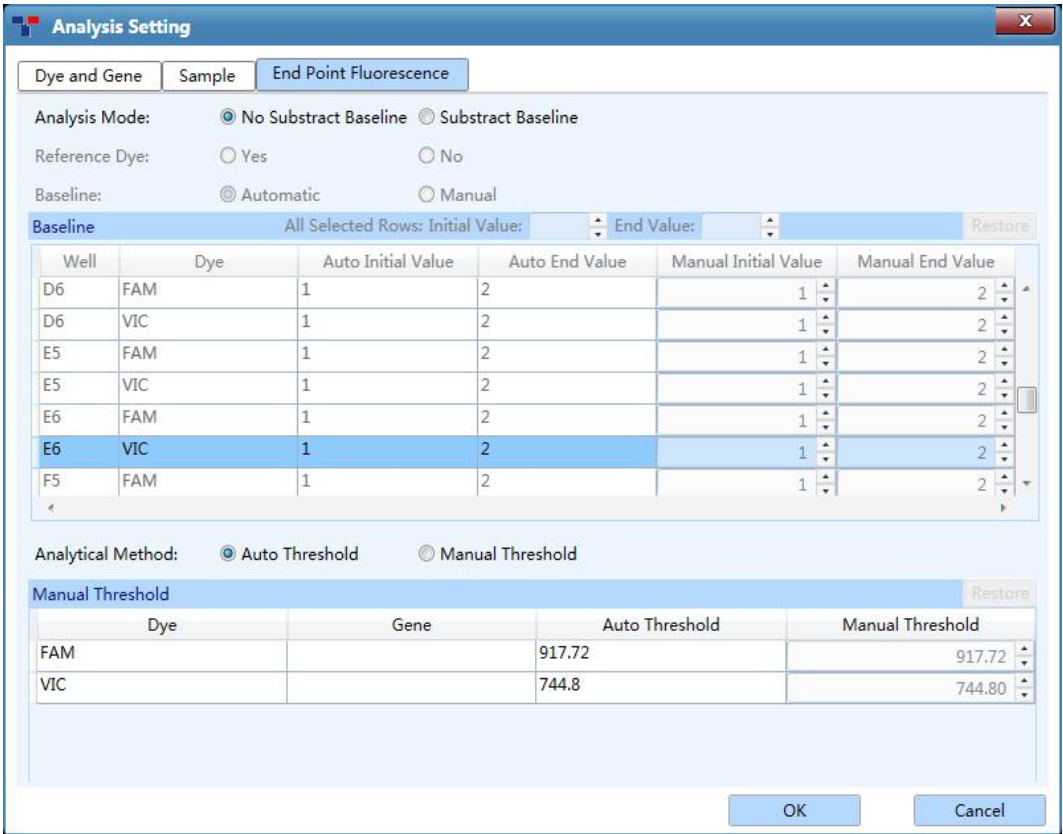

Figure D-19. End Point Fluorescence Analysis Setting interface - End Point Fluorescence tab
► **End Point Fluorescence** tab: as shown in figure D-19.